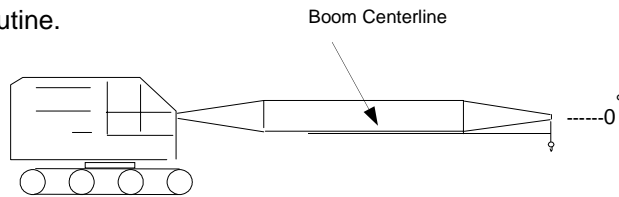

Figure 2
2. Boom down (Fig. 2) to zero degrees.